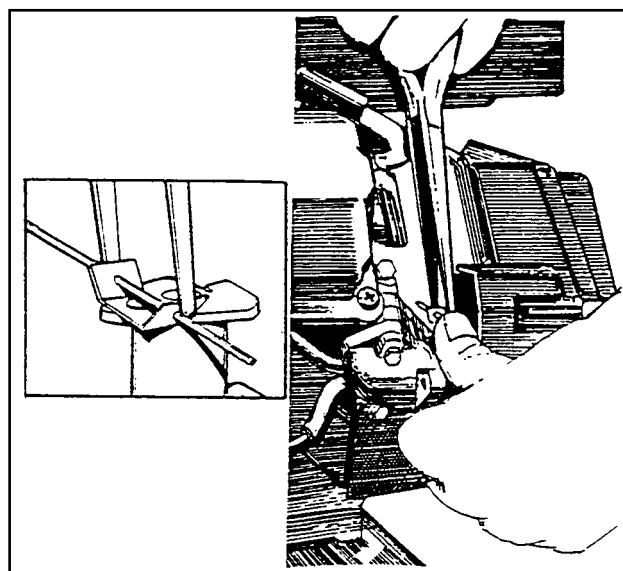

Figure 5. Adjusting Throttle Linkage
3. Use pliers to lightly compress the spring clip on the carburetor lever arm (Figure 5). This permits the linkage rod to slide freely through the clip. With the clip compressed, rotate the throttle lever in the appropriate direction until there is a 0.003 inch (0.08-0.5mm) gap.